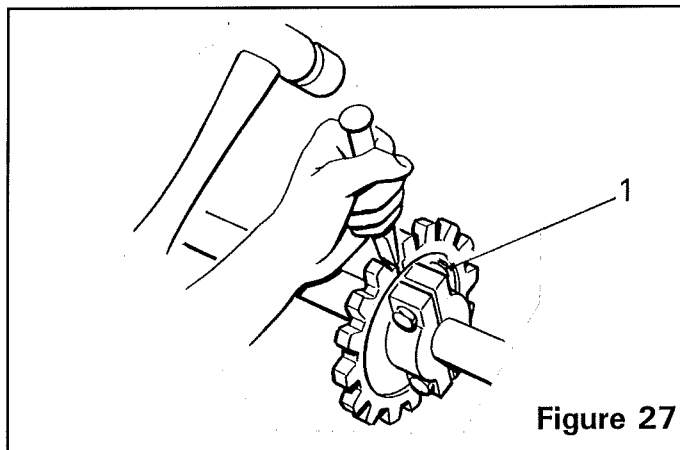

Figure 27
Most drive sprockets will have been split on initial installation, but if not, they should be split with a hammer and sharp chisel. Before splitting a sprocket, on or off the machine, remove the fixing bolts (*item 1, figure 27*). Keep the split halves of the sprockets in the correct pairs to prevent mis-match when fitting.